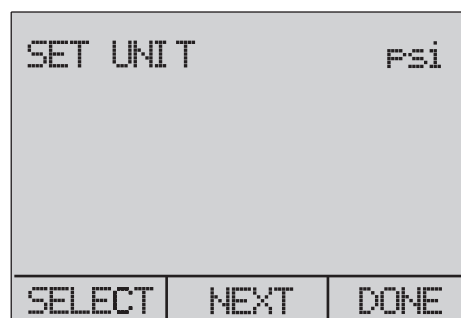

Figure 31. Set Unit Screen
- Use "SELECT" to scroll through the "UNIT" options, and select "NEXT" to move on. See Figure 31.